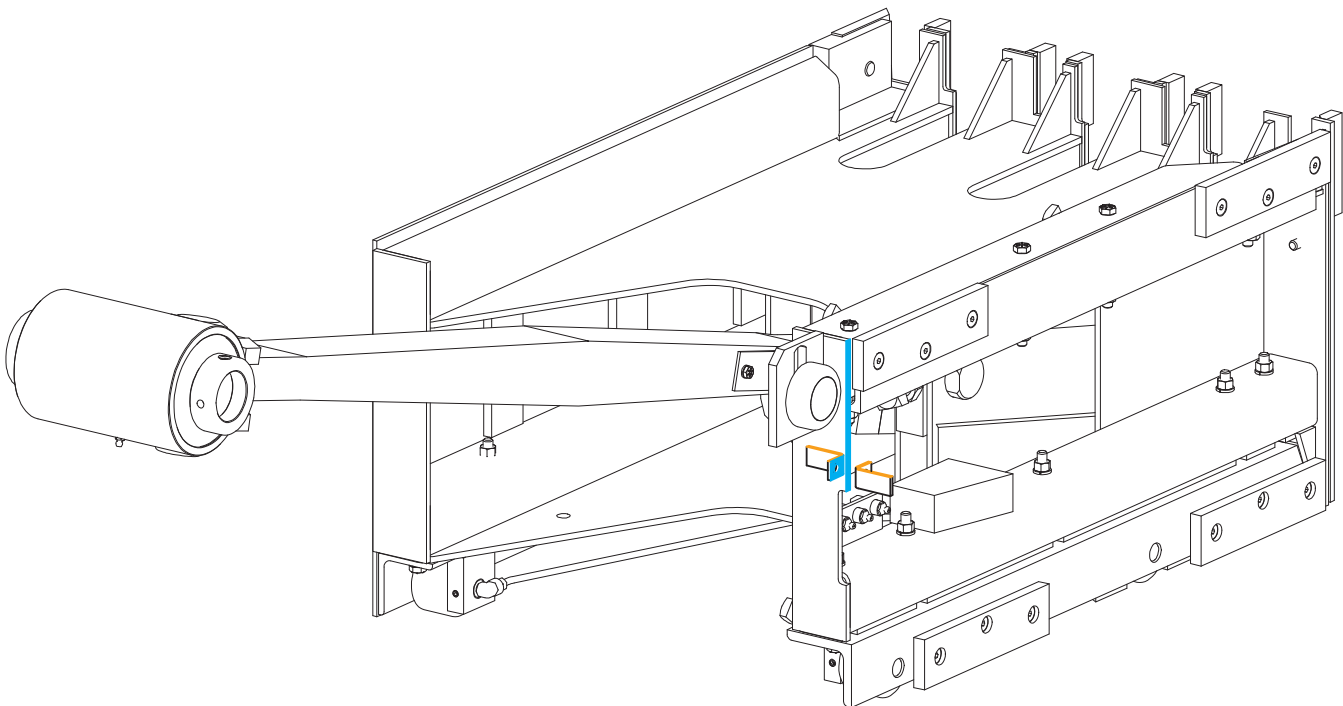

Figure 4 Install Stroke/Plunger Magnet Mount
Locate the plunger magnet mount (the second, smaller, bracket) on the front end of the plunger, in line with the plunger sensor mount (see Figure 4). The outer edge of the mount will be flush with the outer edge of the plunger. Mark this location, or clamp the mount in place.
**Note: In Figure 4, surfaces shaded with like colors are flush.**